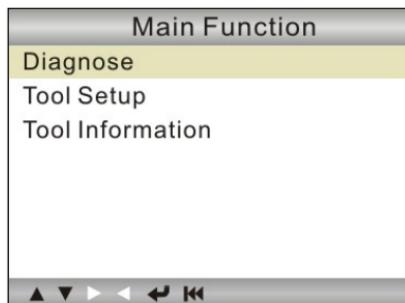
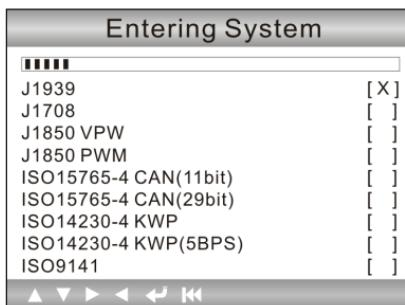

Figure 4-1
Figure 5-1
6. After finishing, the system will enter the main menu interface, as shown in Figure 4-1.
In Figure 4-1, press [] to scan the protocols of heavy-duty trucks and OBDII vehicles, a screen similar to figure 5-1 will appear: